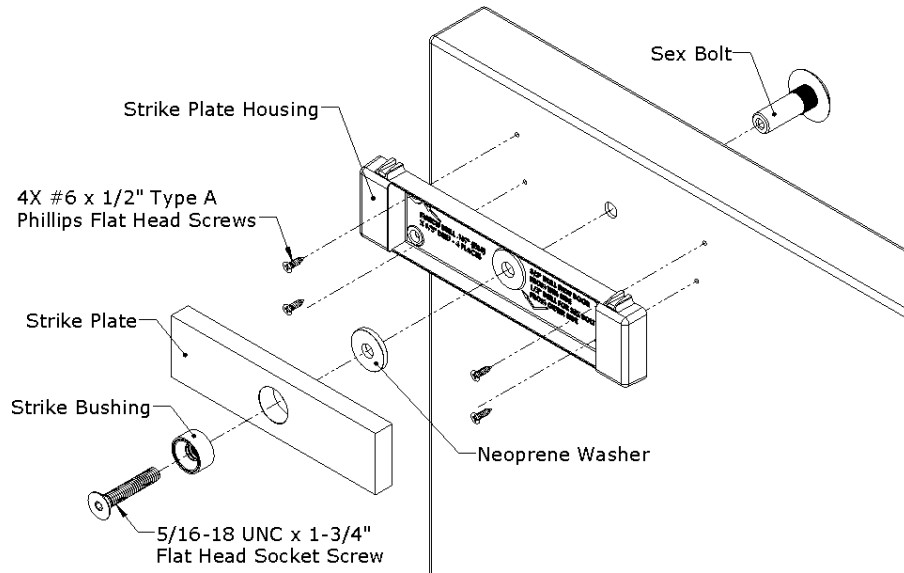
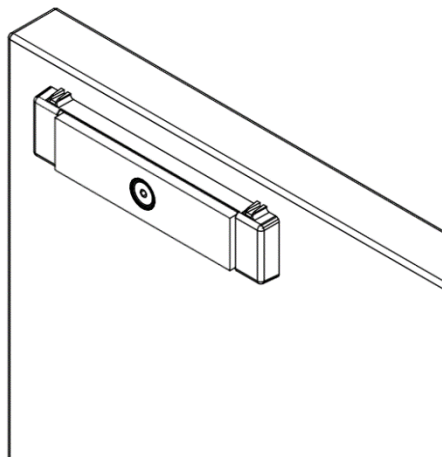
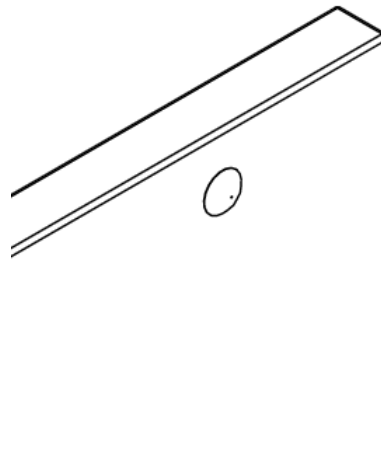

Figure 22. Installing the Strike Plate Assembly
Figure 23. Strike Plate Assembly Installed – Inside Door
Figure 24. Strike Plate Assembly Installed – Outside Door
9. DRILL four (4) #36 (0.107”) x 1/2” deep holes for the strike plate housing anchor screws.
**NOTE:** Figure 22, “Installing the Strike Plate Assembly,” Figure 23, “Strike Plate Assembly Installed – Inside Door,” and Figure 24, “Strike Plate Assembly Installed – Outside Door,” provide illustration for the following steps.
- ATTACH the strike plate housing using the four (4) #6 x 1/2” Phillips flat head screws.
- INSERT the 5/16-18 X 1-3/4” flat head socket screw through the strike bushing, strike plate, one (1) neoprene washer, strike plate housing and door into the Sex Bolt.